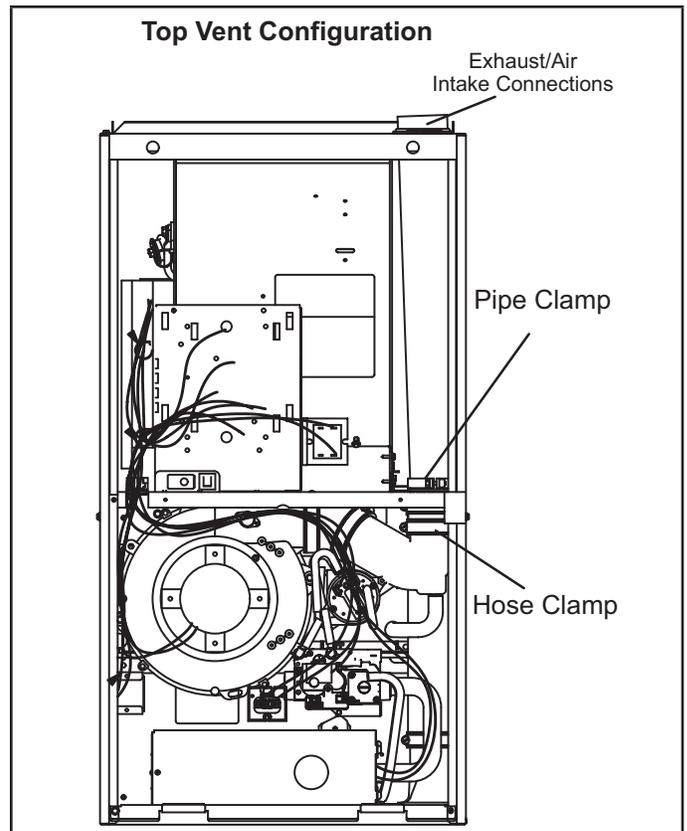

FIGURE 18
- 2 - Loosen hose clamps which attach rubber fittings to the white PVC pipes inside the vestibule area. See FIGURE 18.
- 3 - Loosen the clamp which secures the pipes at the blower deck. See FIGURE 18.